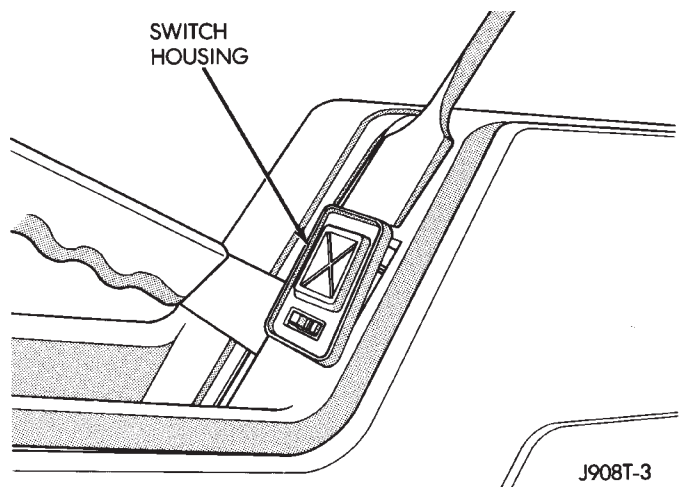
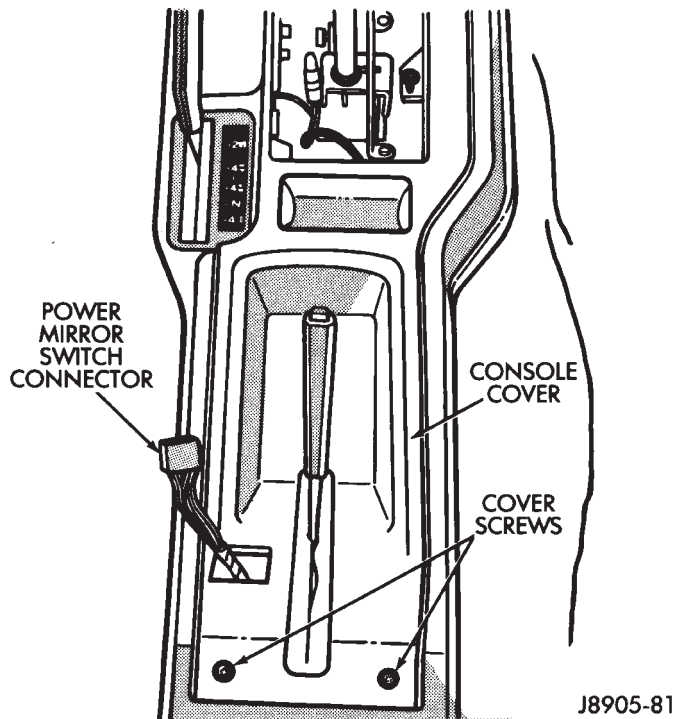

Fig. 31 Power Mirror Switch
Fig. 32 Console Cover Screws and Power Mirror Switch Connector
- (1) Disconnect negative cable from battery.
- (2) If equipped with center console remove the console as follows:
- (c) POWER MIRRORS—Pry mirror switch out of console cover (Fig. 31) and disconnect switch connector (Fig. 32).
- (d) Remove console cover screws (Fig. 32).